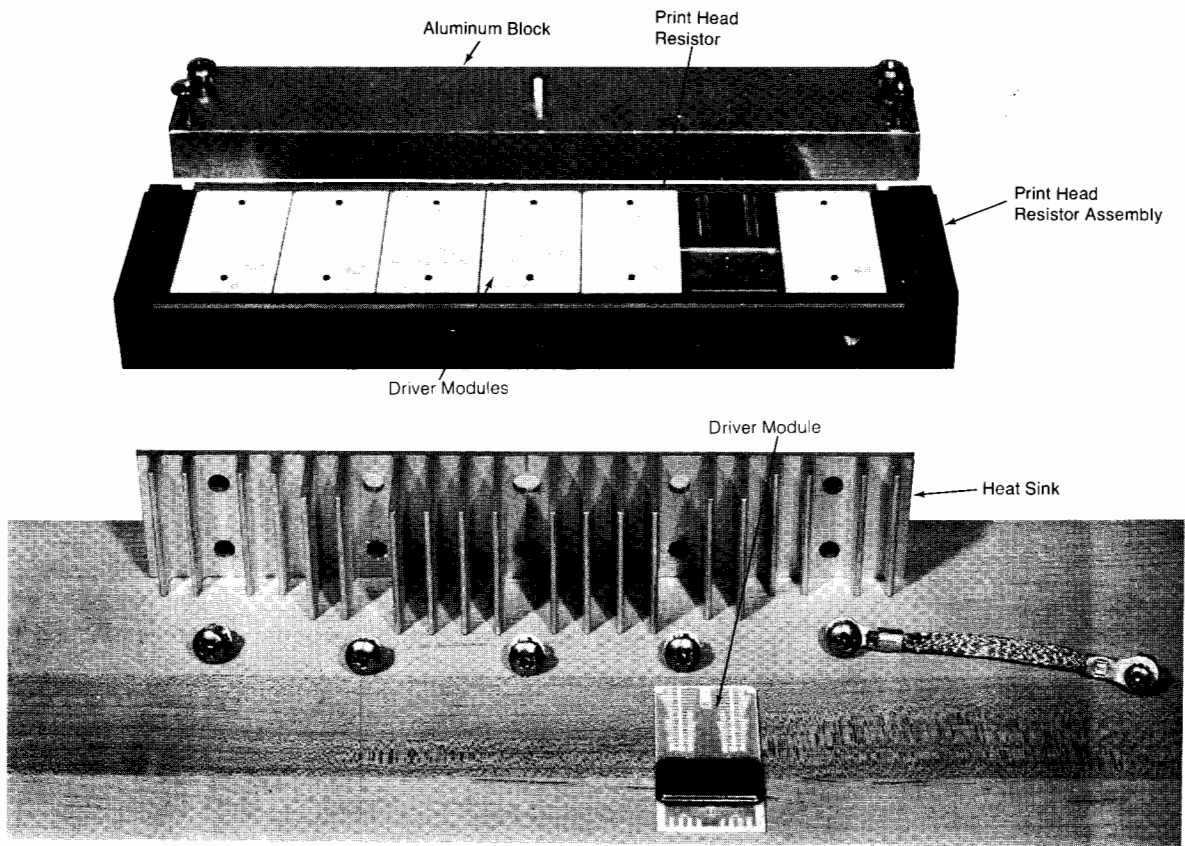

Figure 3-15: Print Mechanism Disassembly
- Remove the heat sink (see Figure 3-15).
- Remove the bad driver modules by lifting it off the print head assembly (see Figure 3-15).